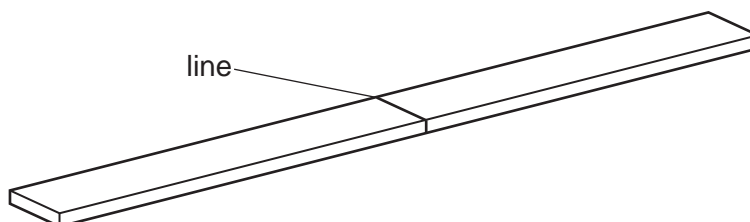

Fig. 2.1
- 1 The length of the MDF strip should be approximately 18 times the diameter of a slotted mass, and the width of the MDF strip should be approximately 1.5 times the diameter of a slotted mass. The strip should be straight. Mark a line all the way around the strip at its centre, as shown in Fig. 2.1.